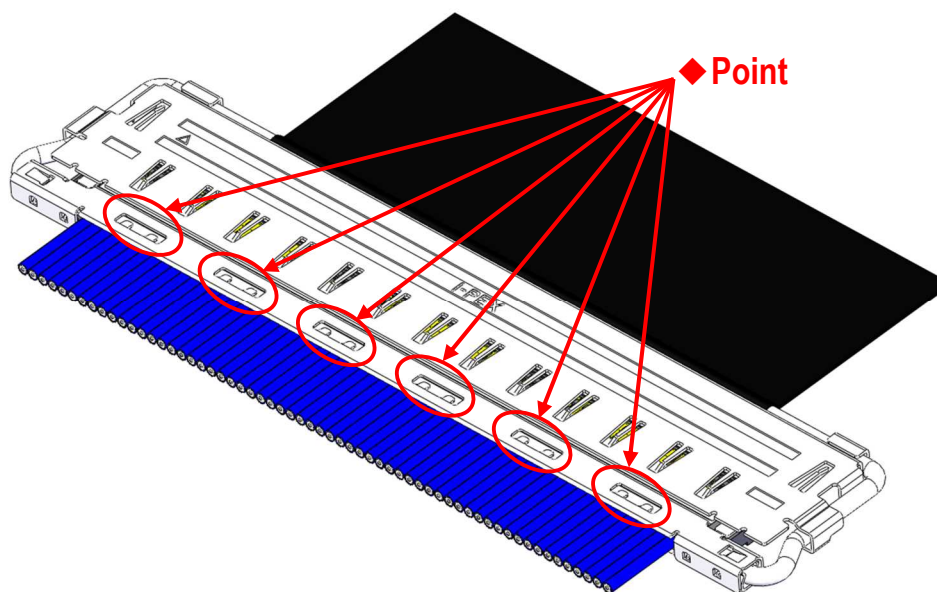

Fig.9 Soldering of SHELL-A and GND BAR
③SHELL A,B と GND BAR を半田コテにて全箇所半田付けする。 (Fig.9,10 ◆部)
SHELL A, B and GND BAR are soldered with the soldering iron at all designated points. (Fig.9,10 ◆point)